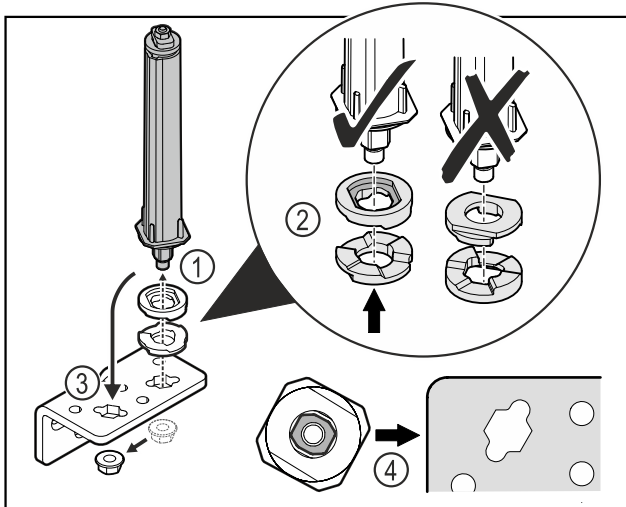

Fig. 44
- ▶ Loosen the nut and remove the door closing system Fig. 44 (1).
- ▶ Observe the correct alignment of the height adjustment washers Fig. 44 (2).
- ▶ Put the door closing system in the hinge fix in place with the nut Fig. 44 (3).
- ▶ Observe the correct alignment of the door closing system when doing so Fig. 44 (4).